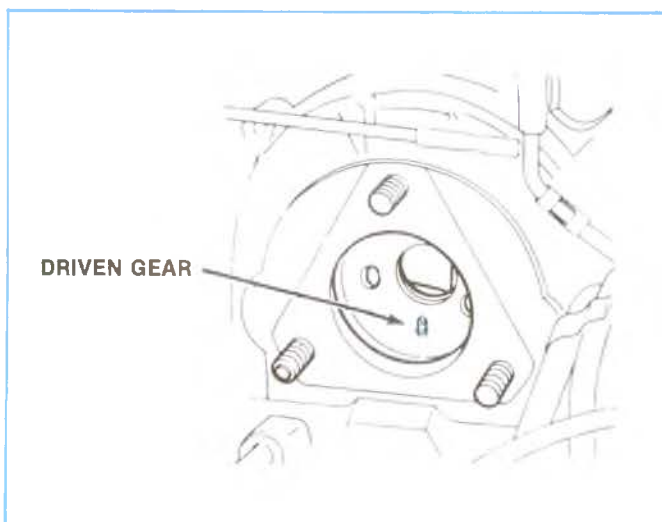

Figure 4-162, Slot of F.I. Pump Gear.
3. Slot of F.I. pump gear to be in vertical 6 o'clock position — (if not, remove fixture and rotate engine crankshaft 360 degrees). The timing marks on gears will be aligned. See Figure 4-162.
12. Align timing mark on F.I. pump to front housing mark. Tighten to specification (3) 10mm attachment nuts.
13. Rotate engine and install remaining (2) pump gear attaching bolt and tighten to specifications.